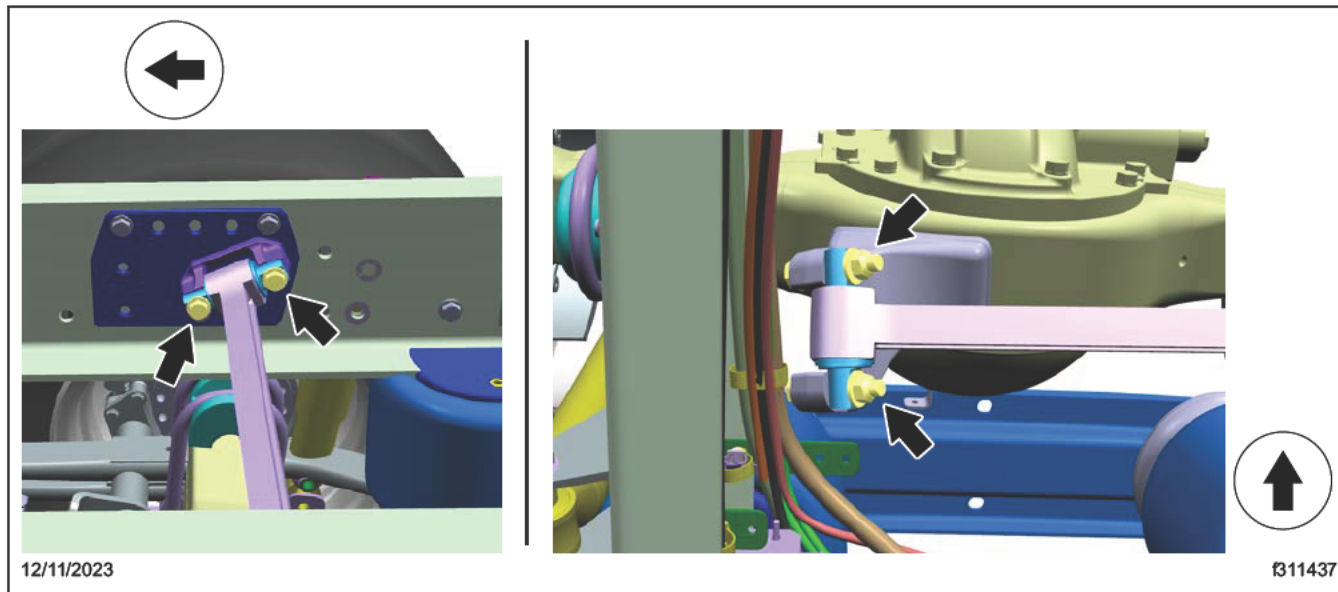
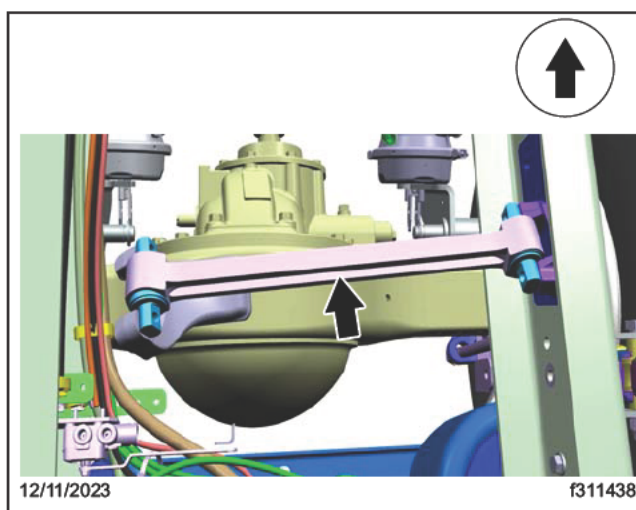

Fig. 9, Lateral Control Rod Mounting Fasteners
Fig. 10, Removal of the Lateral Control Rod
16. Remove the fasteners from both the ends of the lateral control rod, and remove the lateral control rod. Ensure that the driveline yoke is supported to prevent it from rolling forward. See Fig. 9 and Fig. 10.